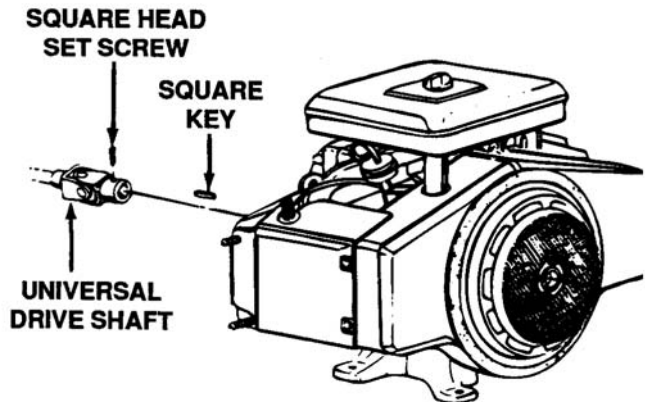

Figure 7-11. Removing the Drive Shaft
1. Loosen the square head set screw on the front universal joint. See Figure 7-11.